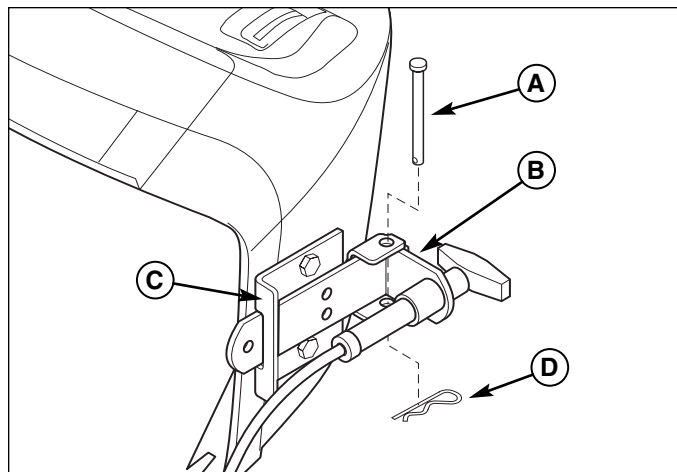

Figure 27. Install Remote Deflector Control
11. See Figure 27. Insert the deflector control handle (B) into the mounting bracket (C).
Secure the handle (B, Figure 27) using a clevis pin (A) and hair pin clip (D).
4. See Figure 27. Remove the hardware securing the remote deflector control, and remove the control.